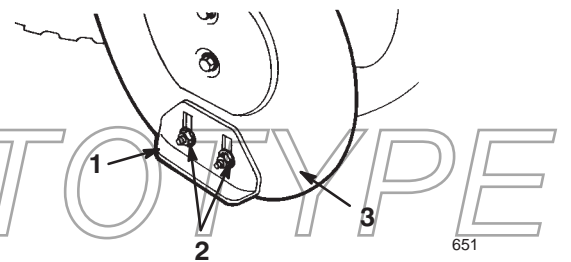

Figure 21
5. Loosen the 4 flange nuts that secure both skids to the auger side plates (Fig. 21) until the skids slide up and down easily.
- Tighten the 4 flange nuts that secure both skids to the auger side plates (Fig. 21).